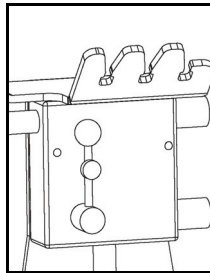

Figure 9.4 Speed control lever
- 8- As soon as the last bale has passed through the hoop and is fully wrapped, stop the engine and cut the 2 sheets of plastic film and place the speed control lever at 0. Attach the 2 free ends of the plastic film to the plastic holder (Figure 9.4).